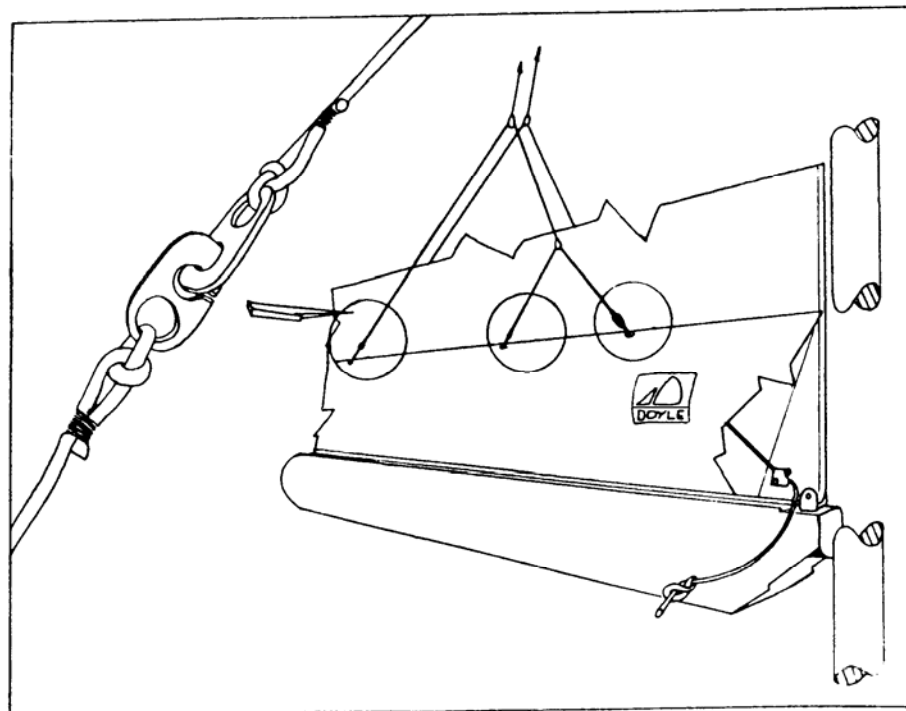

Figure 5b
- ❑ Locate tail of line hanging from each cleat. Adjust the tails so that four feet of line extends through the cleat. The tails should both hang at equal lengths and must have a stopper knot in the end (figure 8 knot is just fine here.) Jam the tails in securely. (See Figure 5b.)